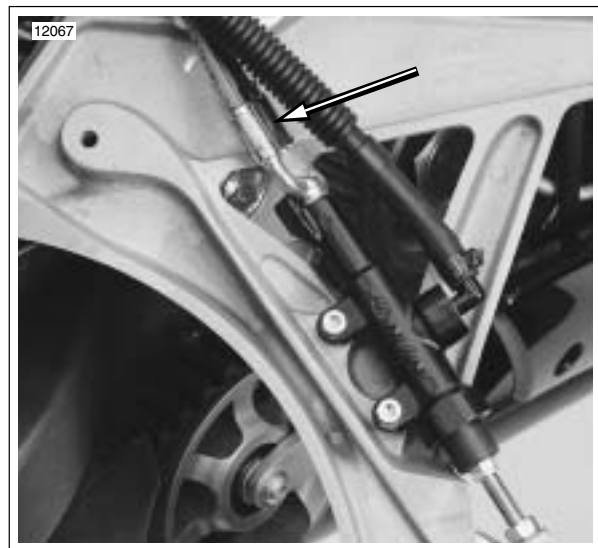

Figure 2-58. Rear Brake Light Switch/Banjo Bolt
8. See Figure 2-58. Remove brake line switch/banjo bolt from rear master cylinder. Discard copper washers.
2. See Figure 2-58. Install brake line switch/banjo bolt with **new** copper washers to the master cylinder. Tighten to 16-20 ft-lbs (22-27 Nm).